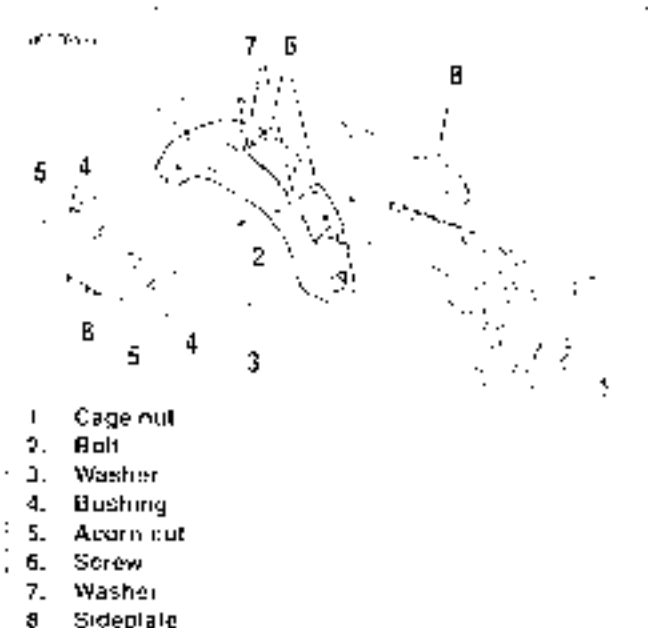

Figure 2-122. Rear Fender: FXDXT
2. See Figure 2-122. From under fender, remove bolt (2) and washer (3) securing front of fender to cage nut (1) on frame.
3. Remove saddlebag mounting screws (6), washers (7), bushings (4) and acorn nuts (5). Carefully remove fender and sideplates (8).
2. See Figure 2-122. Place fender and sideplates (8) into position.
3. Install saddlebag mounting screws (6) and washers (7) from inside fender. Apply **LOCTITE THREADLOCKER 243** (blue) to screw (6) threads.
4. Install bushings (4) and acorn nuts (5) onto screws (6). Tighten all nuts (5) to 12-18 ft-lbs (16.3-24.4 Nm).
5. Attach front of fender to frame with bolt (2), washer (3) and cage nut (1).